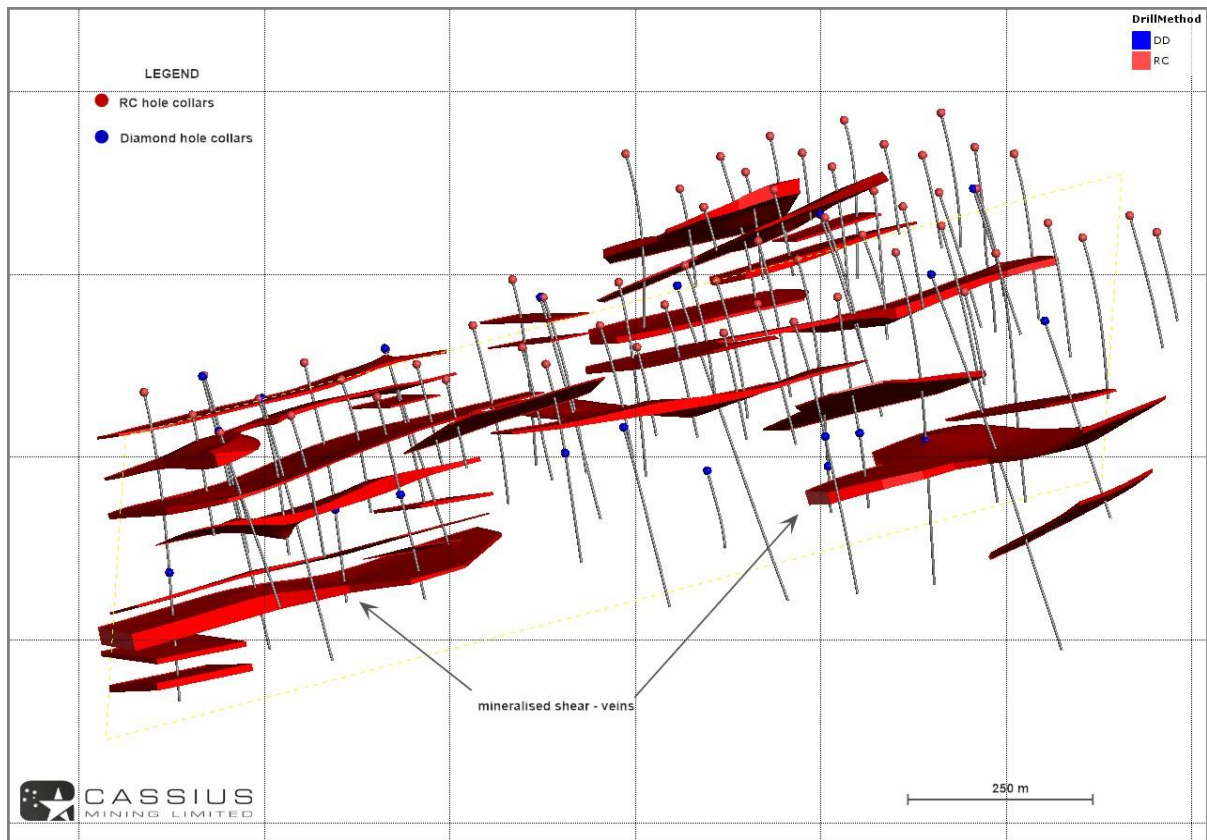

Figure 10: 3D view (looking NW) of the identified stacked mineralised shear-veins
Twenty-six (26) mineralised and altered shear zones have been identified across both drilling phases (**Figure 10**).